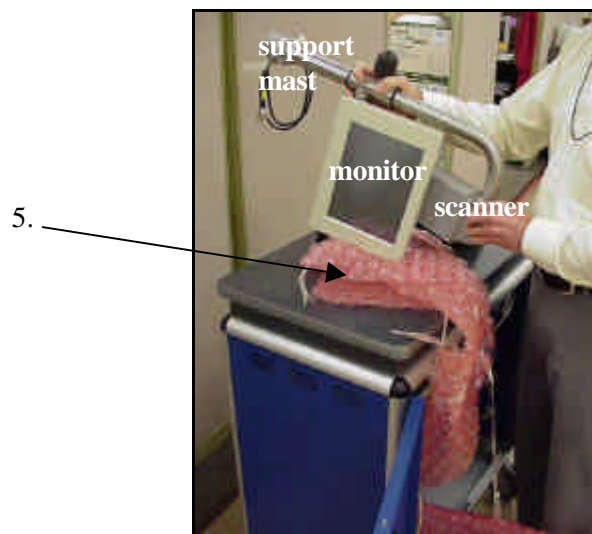

Figure 6: Unpacking support mast with scanner and monitor
5. Unpack the support mast with scanner and monitor (**Figure 6**).